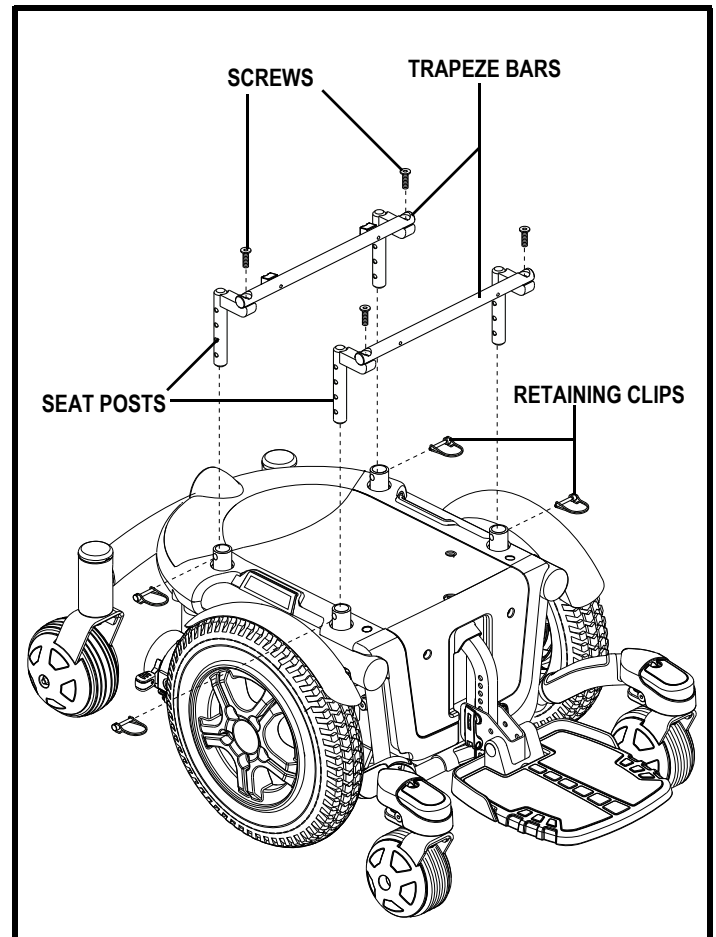

Figure 14. Trapeze Bar Adjustment
7. Loosen the screws that attach the trapeze bars to the seat posts. See figure 14.
8. Remove the retaining clips that secure the seat posts to the power base. See figure 14.